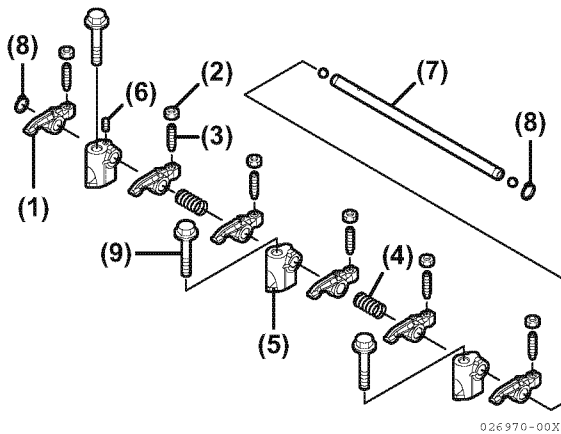

Figure 6-32
1. Lubricate the rocker arm shaft. Slide the rocker arm supports (**Figure 6-32, (5)**), springs (**Figure 6-32, (4)**) and rocker arms (**Figure 6-32, (1)**) onto the shaft.
2. Align the hole in the rocker arm shaft (**Figure 6-32, (7)**) and the hole in the rocker arm support (**Figure 6-32, (5)**). Reinstall the alignment set screw (**Figure 6-32, (6)**).
4. If removed, reinstall the valve adjusting screws (**Figure 6-32, (3)**) and lock nuts (**Figure 6-32, (2)**).